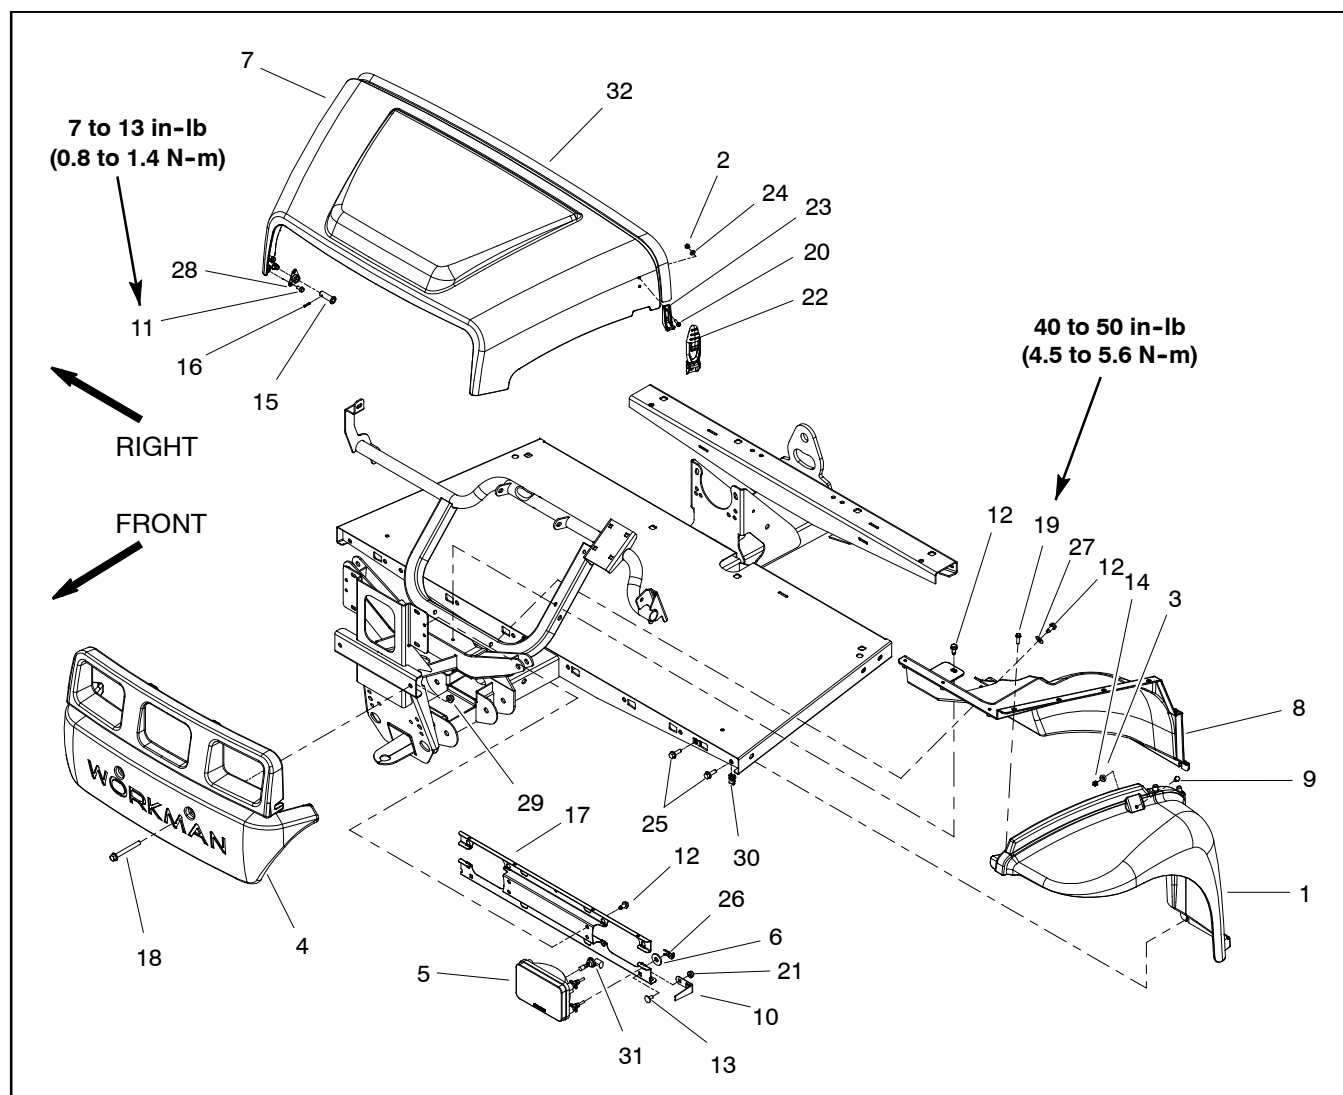

Figure 40
Removal (Fig. 40)
2. Remove hood using Figure 40 as a guide.
Installation (Fig. 40)
1. Install hood using Figure 40 as a guide. During assembly, use fastener torque specifications that are identified in Figure 40.